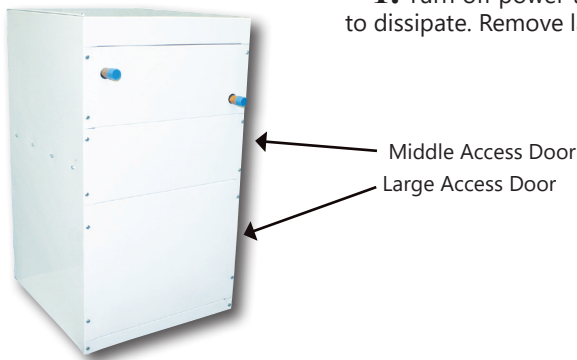

Fig. 1 - LV-E-1750 Air Handler
1. Turn off power to the air handler, and allow 5 minutes for power stored in capacitors to dissipate. Remove large and middle access doors from air handler. (Fig. 1)